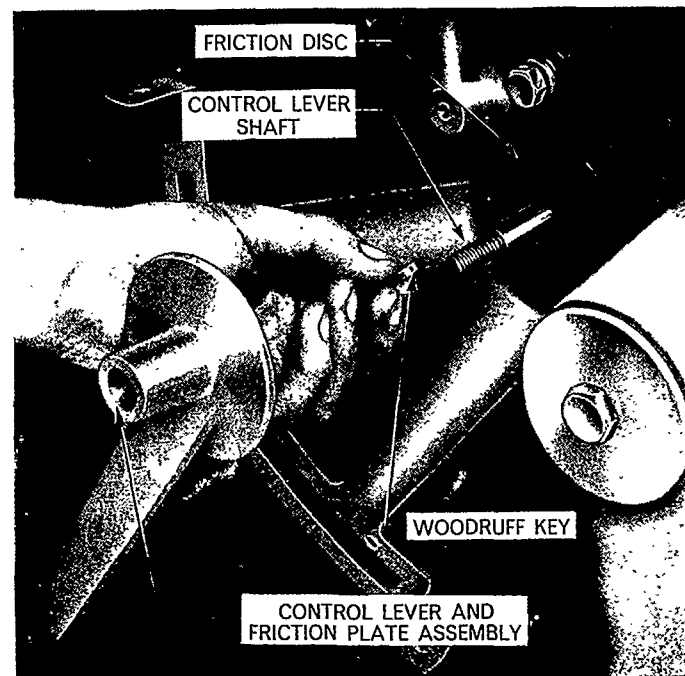

Figure 79
18. Install the friction pad, woodruff key and lift control lever plate, Figure 79.